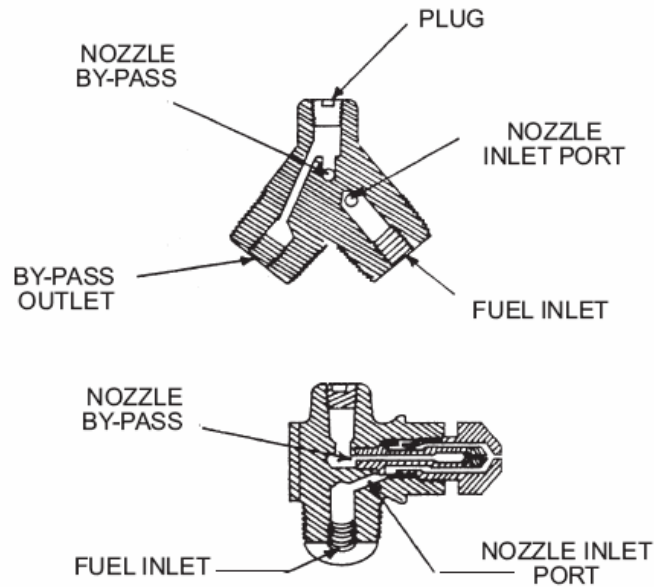

Figure 4-4 • Fuel Atomizing Head
- 4.19** The fuel nozzle screws into a nozzle holder, the combination being known as the fuel atomizing head. Fuel from the inlet line enters the nozzle supply chamber through a strainer screen (see figure 4-4), then flows through slots in the inner head through which imparts a whirling motion to the fuel so that it partially atomizes as it enters the swirl chamber. Atomization is completed as the fuel sprays through the discharge orifice into the combustor. A portion of the fuel is also forced into a by-pass chamber which leads to the by-pass outlet passage in the nozzle holder. A check valve connected between the outlet and by-pass fuel line prevents a reverse fuel flow to the nozzle from the by-pass line. Fuel is discharged from the nozzle at a fixed continuous pressure and a continuous fixed flame is obtained. A change in heat output is obtained by varying the pressure of fuel discharged from the nozzle. This is accomplished indirectly by controlling the pressure of the fuel flowing through the by-pass fuel line through the action of the temperature selector valve.